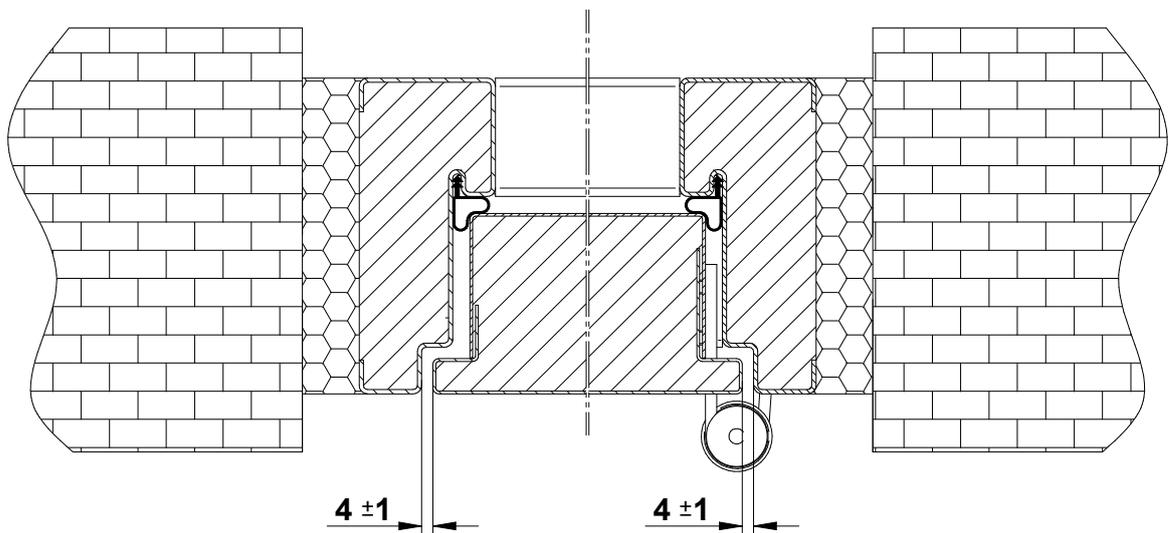

Figure 6. Gap tolerances between the door leaf and the frame
- The gap must be at least 3 mm and not greater than 5 mm (Figure 6). If necessary, loosen the fixing screws and adjust the sleeves with a hex key.